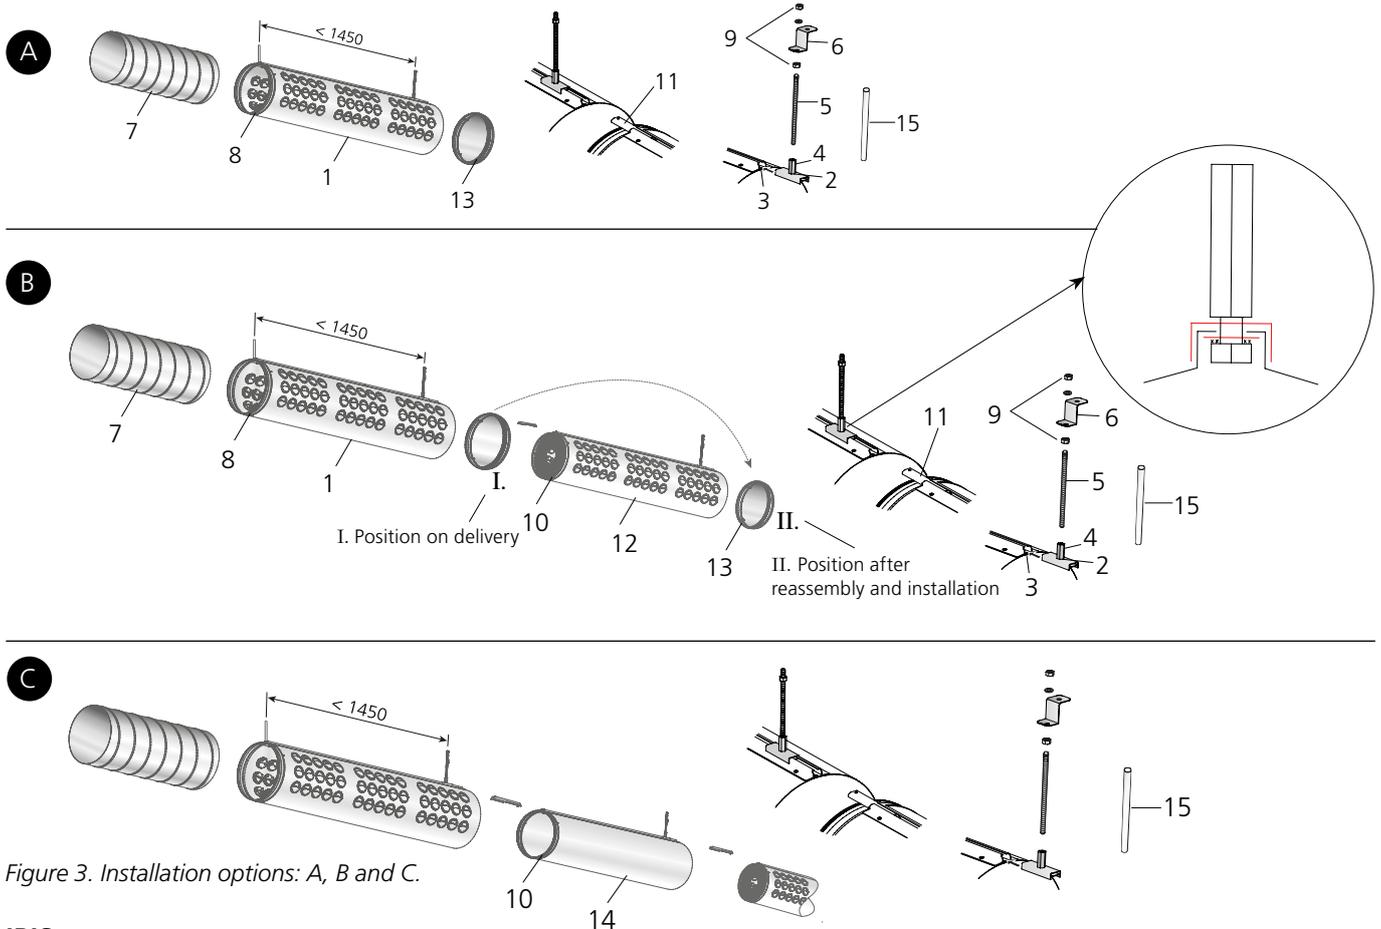

Figure 3. Installation options: A, B and C.
- Install the inactive IBIS D duct sections (14) in the same way as the duct air diffuser sections with nozzles. Note the use of supplied joints (8) and distribution joints (10) included in the supply.
- Position on delivery **I** and **II** Position after reassembly and installation. The end cap (13) is supplied mounted in the first section. Move the end cap to the last section if IBIS 3000 and IBIS 4500 are supplied, See Phase B in Figure 3.